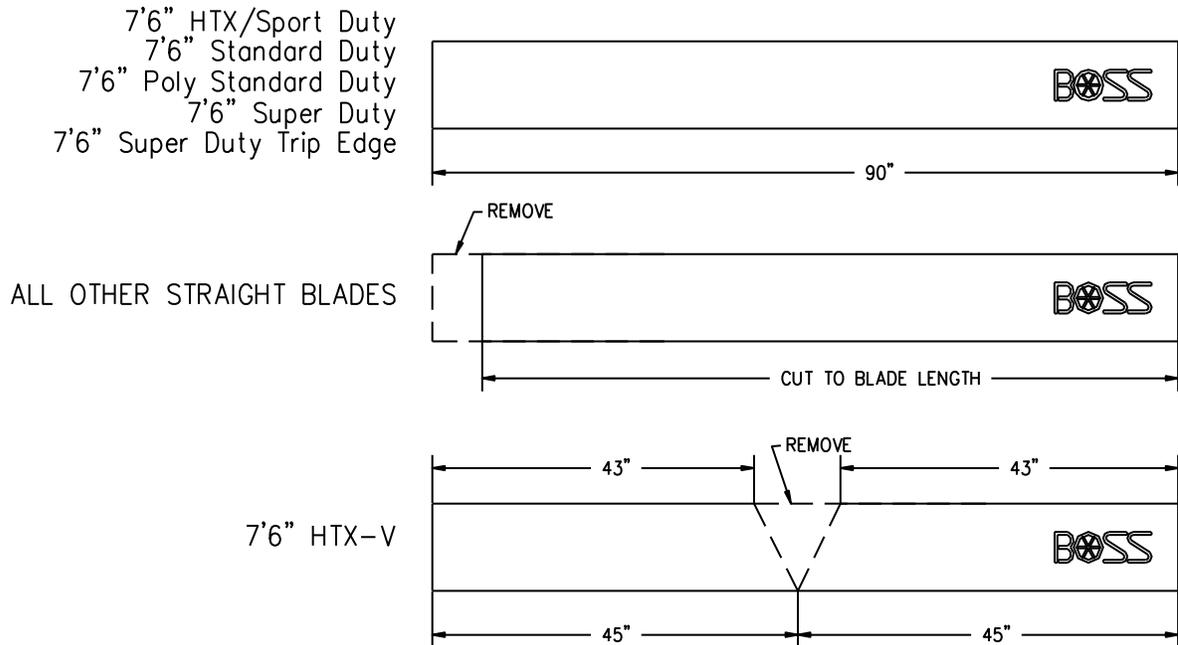

Figure 2. Belting cut for all 7'6" & Under Straight Blades.
1. Cut **MSC04058** Belting (1) to match the length of your plow. See Figure 2 for dimensions.